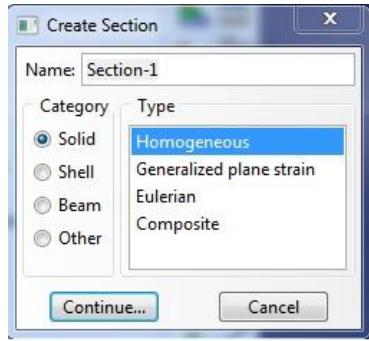
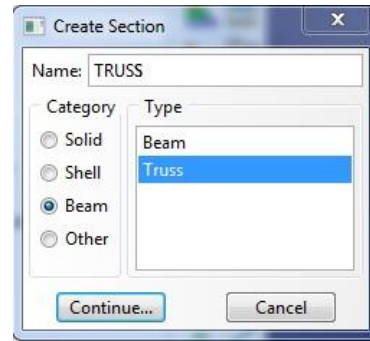

Figure 7a. Create Section Dialog Box
Figure 7b. Create Section Dialog Box Truss
- To create a truss section in ABAQUS, double click **Sections** in the model tree and the **Create Section** dialog box will appear (Figure 7a). Enter a **Name** for the section (TRUSS), and choose **Beam** under the Category Tab, and **Truss** under the Type tab. Your Create Section dialog box should look identical to that in Figure 7b.